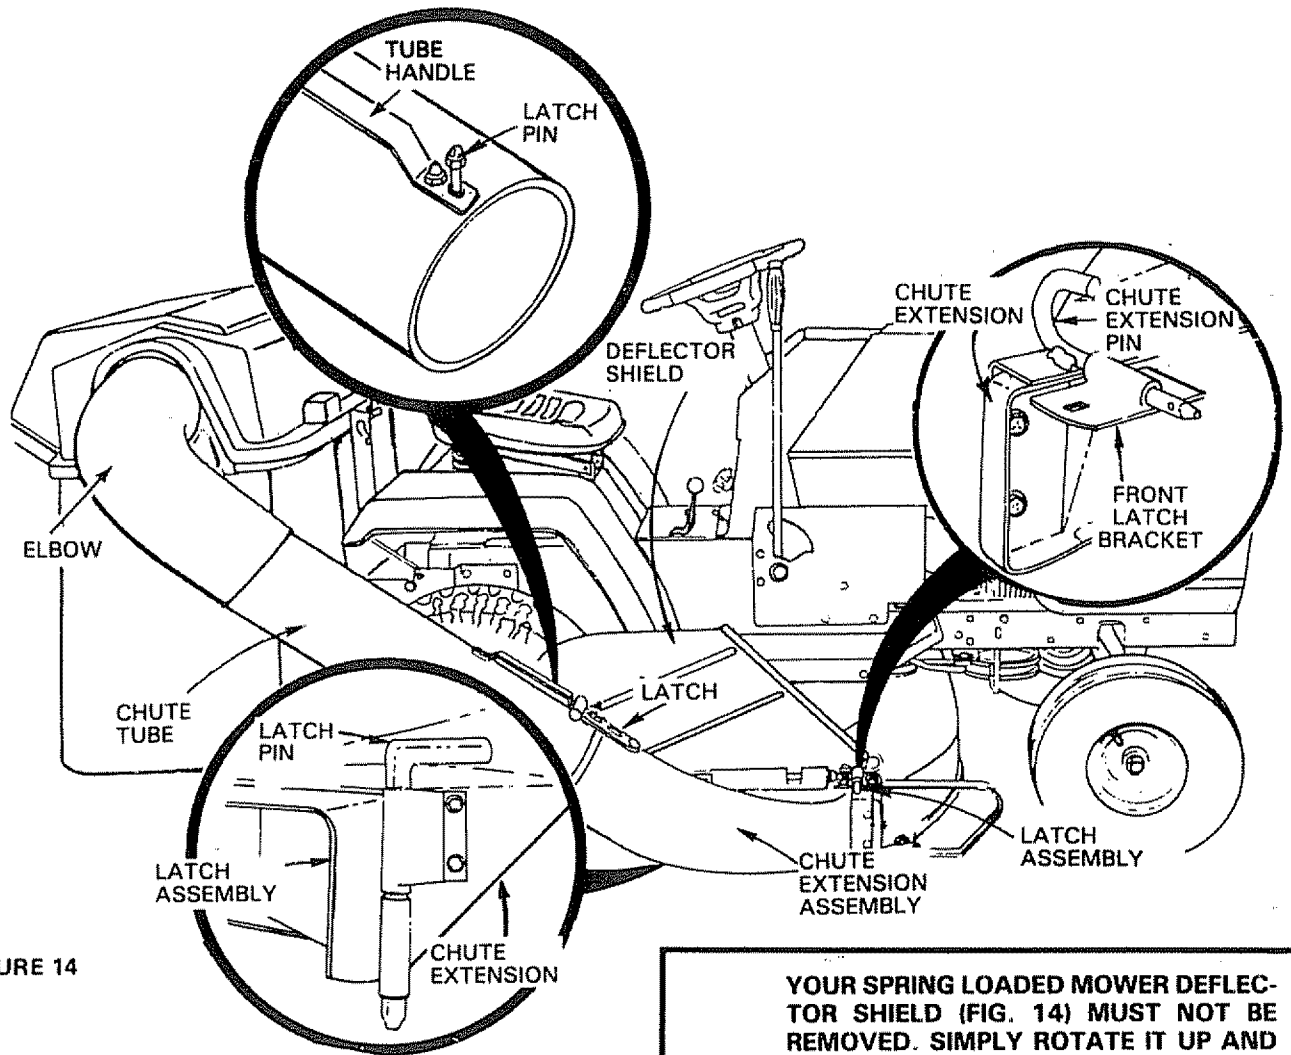

FIGURE 14
**YOUR SPRING LOADED MOWER DEFLECTOR SHIELD (FIG. 14) MUST NOT BE REMOVED. SIMPLY ROTATE IT UP AND HOLD IN UP POSITION WHILE ATTACHING CHUTE EXTENSION. THE MOWER DEFLECTOR SHIELD CAN BE RELEASED TO REST AGAINST CHUTE EXTENSION. THIS WILL ASSURE DEFLECTOR SHIELD IS STILL ON MOWER IF CHUTE EXTENSION OF GRASS CATCHER ATTACHMENT IS REMOVED.**
- b. Insert chute extension pin into front latch bracket (Fig. 14 - R.H. Inset).
- c. Lift up slightly on L.H. side of chute extension lining up spacer located on latch assembly with rear latch bracket (Fig. 14).
- e. Secure L.H. side of chute extension to latch assembly using: latch pin and retainer spring (Fig. 14 - Lower Inset). Retainer spring shown full size below. Latch pin and retainer spring furnished with grass catcher.
14. Place chute tube (Fig. 14) in elbow. Slide chute tube over chute extension (Fig. 14) and secure by hooking latch over latch pin (Fig. 14 - Upper Inset).
15. Close top cover. NOTE: Be sure elbow shield is on inside of top cover (Fig. 14).